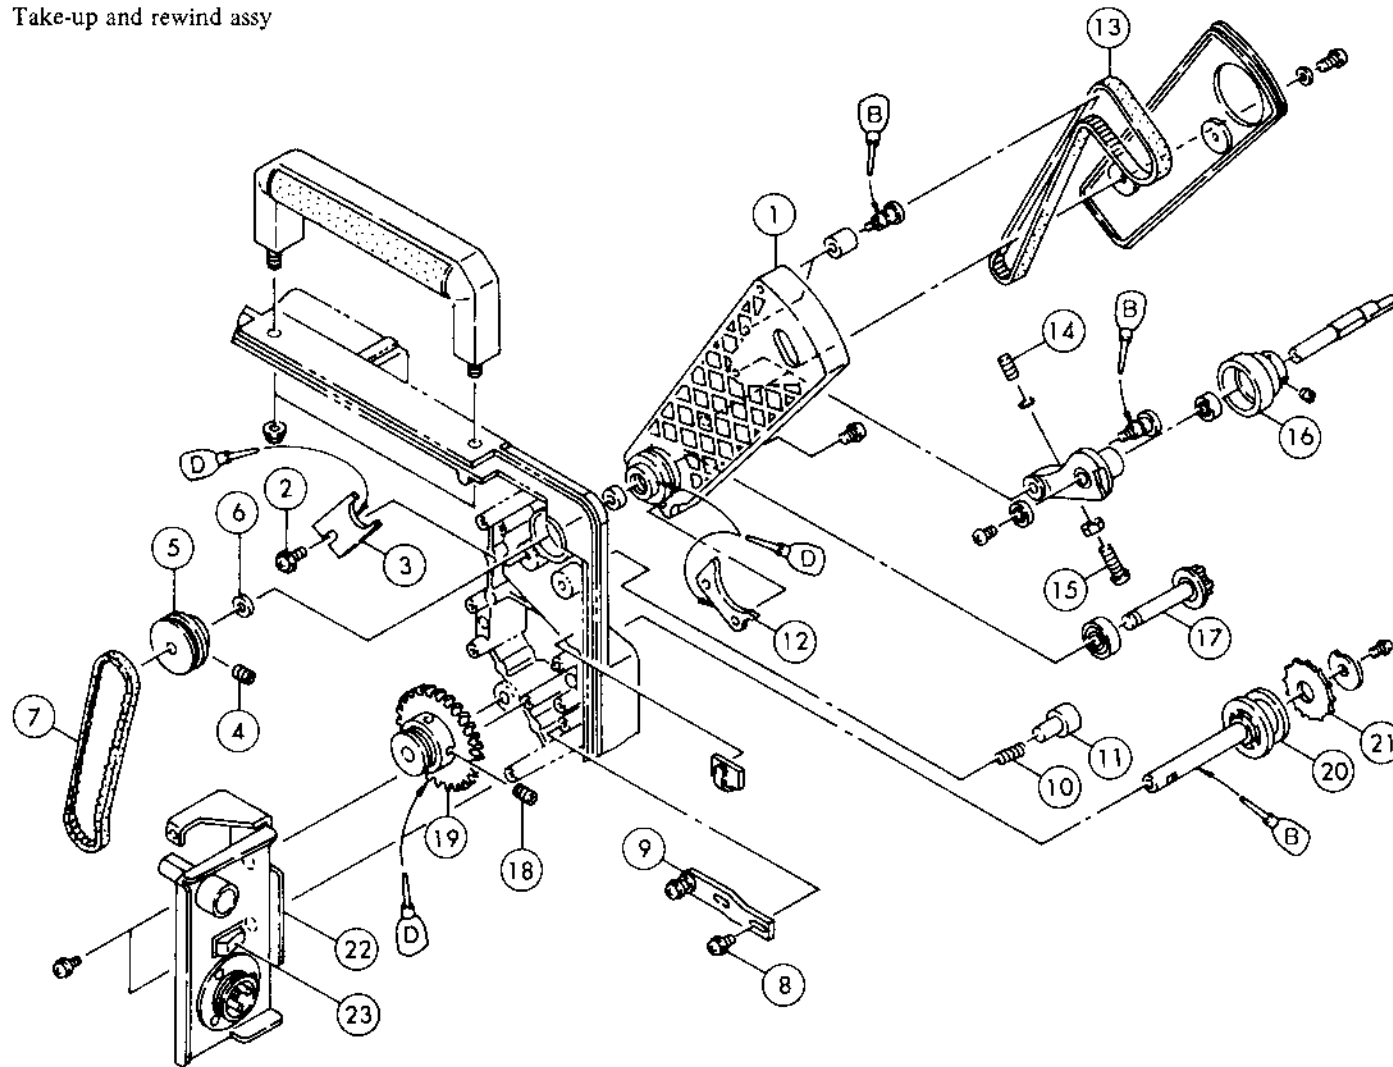

Fig. 18
1. Take out ③ by removing ②.
2. Pull out assy ① by loosening ④ main, taking care so as not to let ⑥ fall down, or ⑩ and ⑪ fly out. (The operations in items 1 and 2 can be done more easily after removing ⑦ by loosening ⑧ x 2 pcs. and shifting ⑨ after the fixing plate fan motor assy (see P. 35), amplifier (see P. 51) and fixing plate power jack assy ② are removed.)
3. Pull out ㉑ after removing ⑪ by loosening ⑫ x 2 pcs.
4. For further disassembly, refer to Fig. 18.